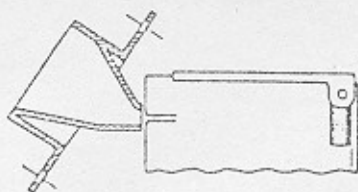

Fig. 1
- Install chute in place of cover in lid (see Fig. 1).
The height should be adjusted at Fig. 2 / Pos. 3 so that the dollar bill validator is aligned with the chute in the lid and is guided exactly into the acceptor slot (Fig. 1).
- Move staker backwards into its final position until the latch (Fig. 1) locks in at the second position.